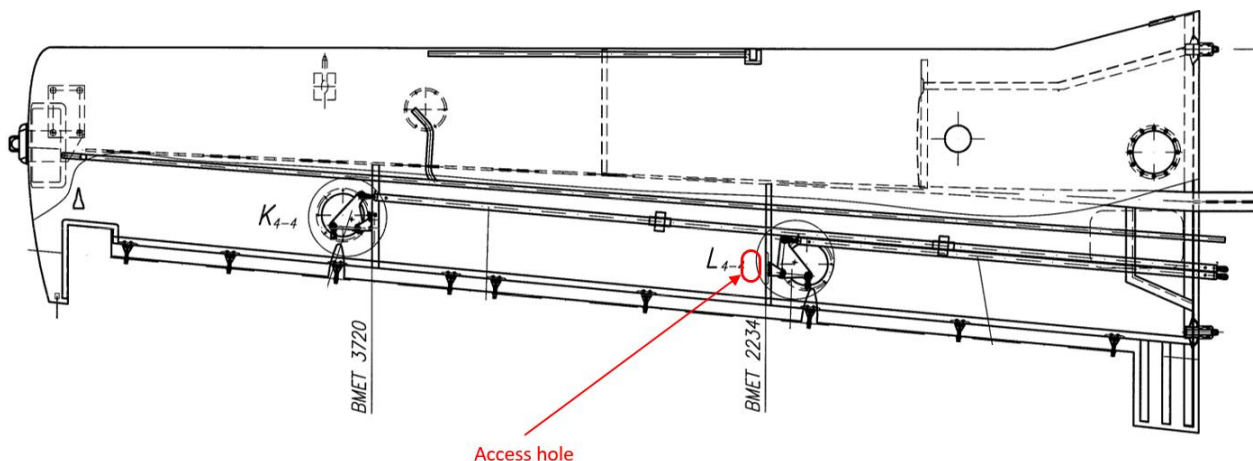

Figure 6: Access Hole Wing, Flap bell crank attachment bolts (LH shown, RH mirrored)
- 7.2.3 Cut an access hole into the wing surface as small as practical, refer to Figure 6.